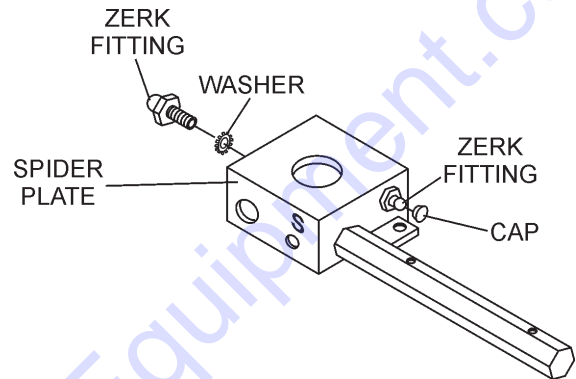

Figure 25. Trowel Arms Removal
1. Remove the two remaining zerk fittings and allen head screws from the spider assembly (Figure 25).